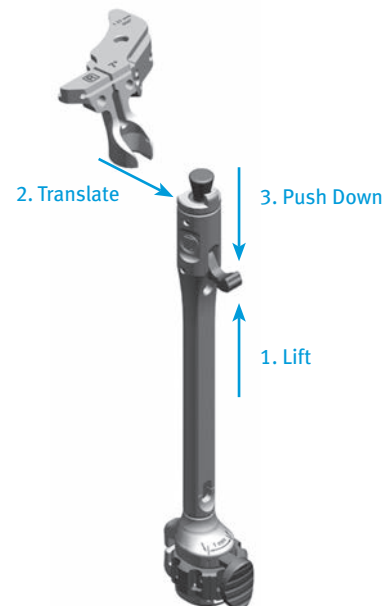

Fig. 17
- Attach the selected tibial cut guide to the EM Alignment Guide (**Fig. 17**).